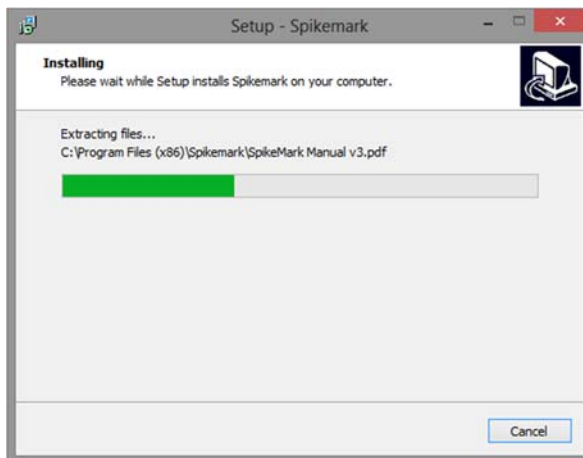

Figure 8
10. The **Installing Spikemark** window will launch (Figure 8).